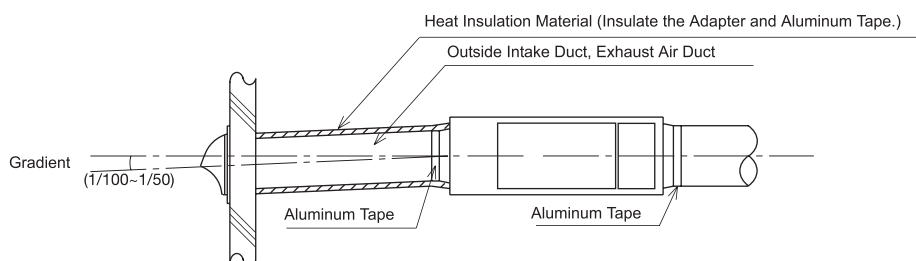

Fig. 2
- Install two outdoor ducts so they will be in the down gradient toward outside to prevent water from coming in. (Gradient: 1/100~1/50) (Fig. 2)
- Never fail to heat-insulate two outdoor ducts (including outside air and exhaust air duct) to prevent dewing. (Material: Glass Wool, Thickness-25mm) (Fig. 2)